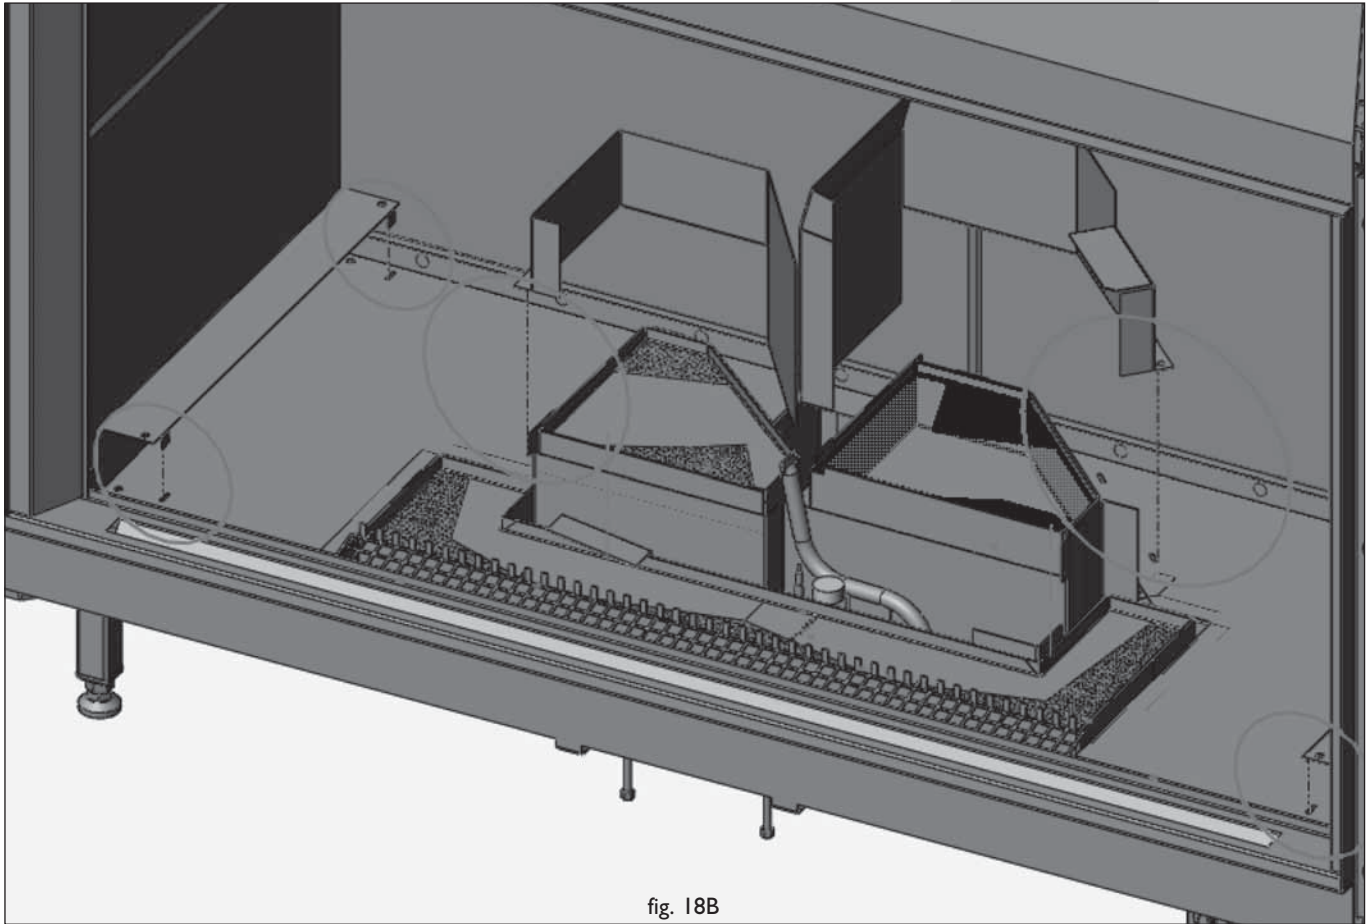

fig. 18B
- If necessary, see table on page 28: fit the inlet guides (diagonals) as indicated in fig. 18B and 18C with the pins in the slots of plates A, as circled in fig. 18B.
- Then fit the air duct dividers B and C, as shown in figs. 18B, 18C and 18D. Again the pins should fit into the slots, as circled in figs. 18B and 18D. Make sure the dividers lie as illustrated in fig. 18D so that they connect to the burners at the points indicated by the arrows in fig. 18B.